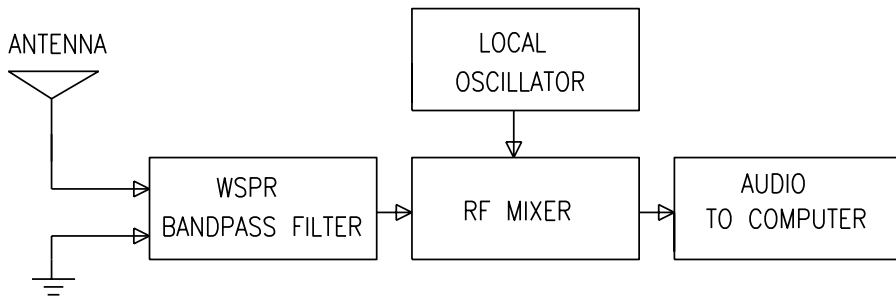

FIGURE 4. Block diagram for the WSPR receiver.
Recall that the function of the receiver is to convert the WSPR radio signals to audio for the computer sound card. A good candidate for these requirements would be some type of fixed, direct conversion (DC) radio. DC receivers convert radio signals to audio directly without any intermediate stages. A block diagram of the proposed radio is shown in **Figure 4**. Here is how it works.